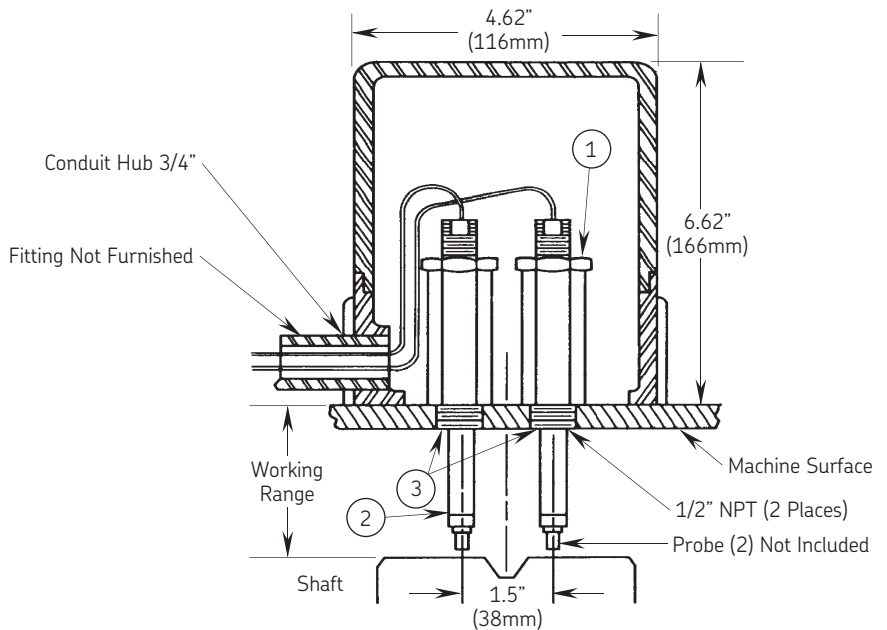

Figure 3-12. CMSS 912 Dual Probe installation diagram.
2. Cut threaded extension (Part 2) Figure 3-12 to desired length, deburr, and chase the threads with a tap.
3. Thread probe connector through threaded extension (2) from small end and screw probe into extension to desired length. Lock in place with lock nut (1).
4. Thread fitting (3) into 1/2" (12.7 mm) NPT hole in machine case.